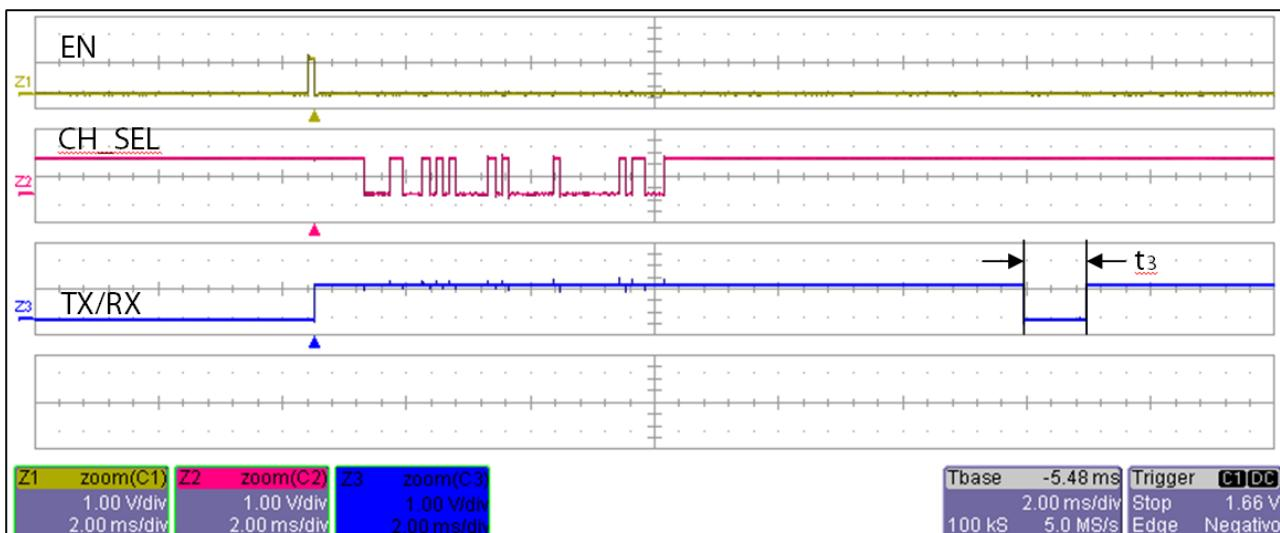

Figure 2: timings. $t_3 = 1 \text{ ms typ.}$
- Feedback on the state of programming:** the transceiver is capable of returning a feedback in case of successful programming (ACK). To this purpose it is necessary to set the TX / RX line (pin 6) as input on the external microcontroller during the programming operation, with pull-up enabled. The line must be set this way within the end of the pulse t_1 on EN and the beginning of the transmission of serial data (end of t_2), and kept in pull-up for all the duration of programming phase. The ACK occurs as a negative pulse t_3 on the TX / RX line and has a duration of **1 ms** (typical) (see Figure 2).